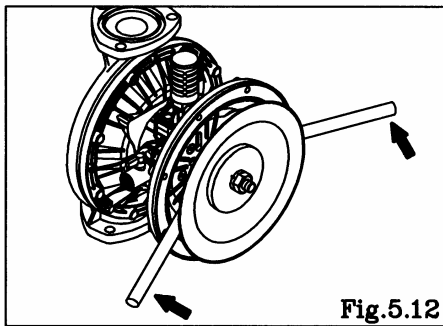

Fig.5.12
- Grip the inside center disk using crowbars and draw it to the opposite side, then turn the diaphragm over. (exclude B□H, B□S, B□H/T types) [Fig.5.12, 5.13]